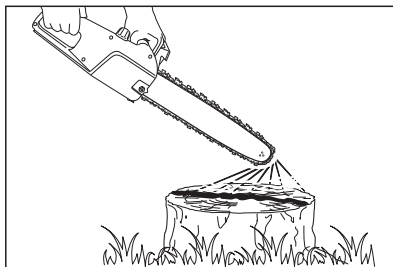

Fig. 3d
- 1). Make sure the guide bar (4) and the saw chain (3) are in place when you check the oil delivery.
- 2). Start the product; keep it running at no load and check if the chain oil is delivered as shown in the figure (Fig. 3d).